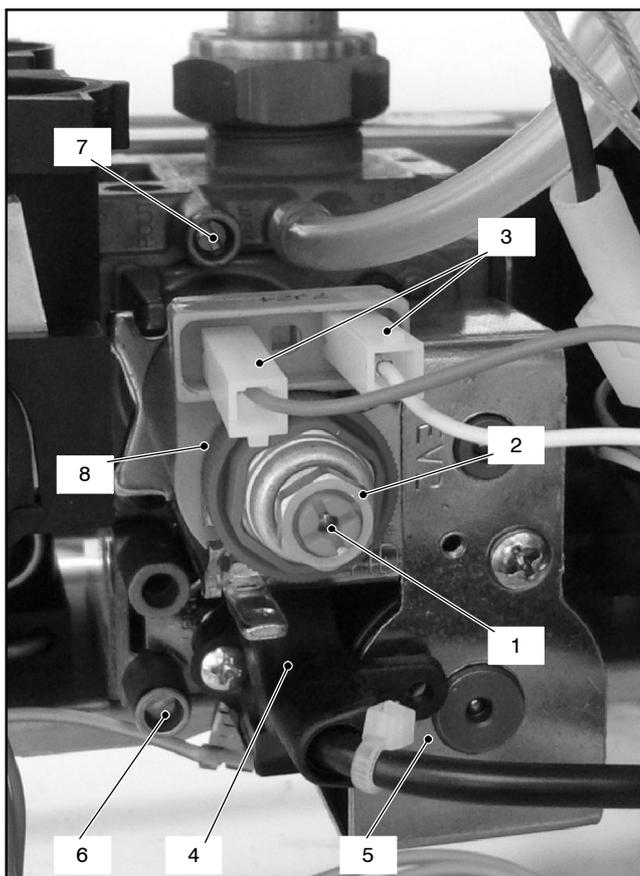

Fig. 2
### 11.2 Nomenclature of the parts (Fig. 2)
- 2 Open the gas valve inlet pressure test point (6 in Fig. 2) at the valve input, connect a suitable pressure gauge and check the gas pressure of the supply network.
- 4 Open the gas valve outlet pressure test point (7 in Fig. 2) and connect the gauge;
- 7 Rotate the maximum gas pressure adjustment (2 in Fig. 2) until you obtain the required pressure (by rotating clockwise the pressure increases).
- 8 Turn the boiler off and disconnect one of the two connectors (3 in Fig. 2).
- 9 Start the boiler and rotate the minimum gas pressure adjustment (1 in Fig. 2) until you obtain the required pressure (by rotating clockwise the pressure increases).